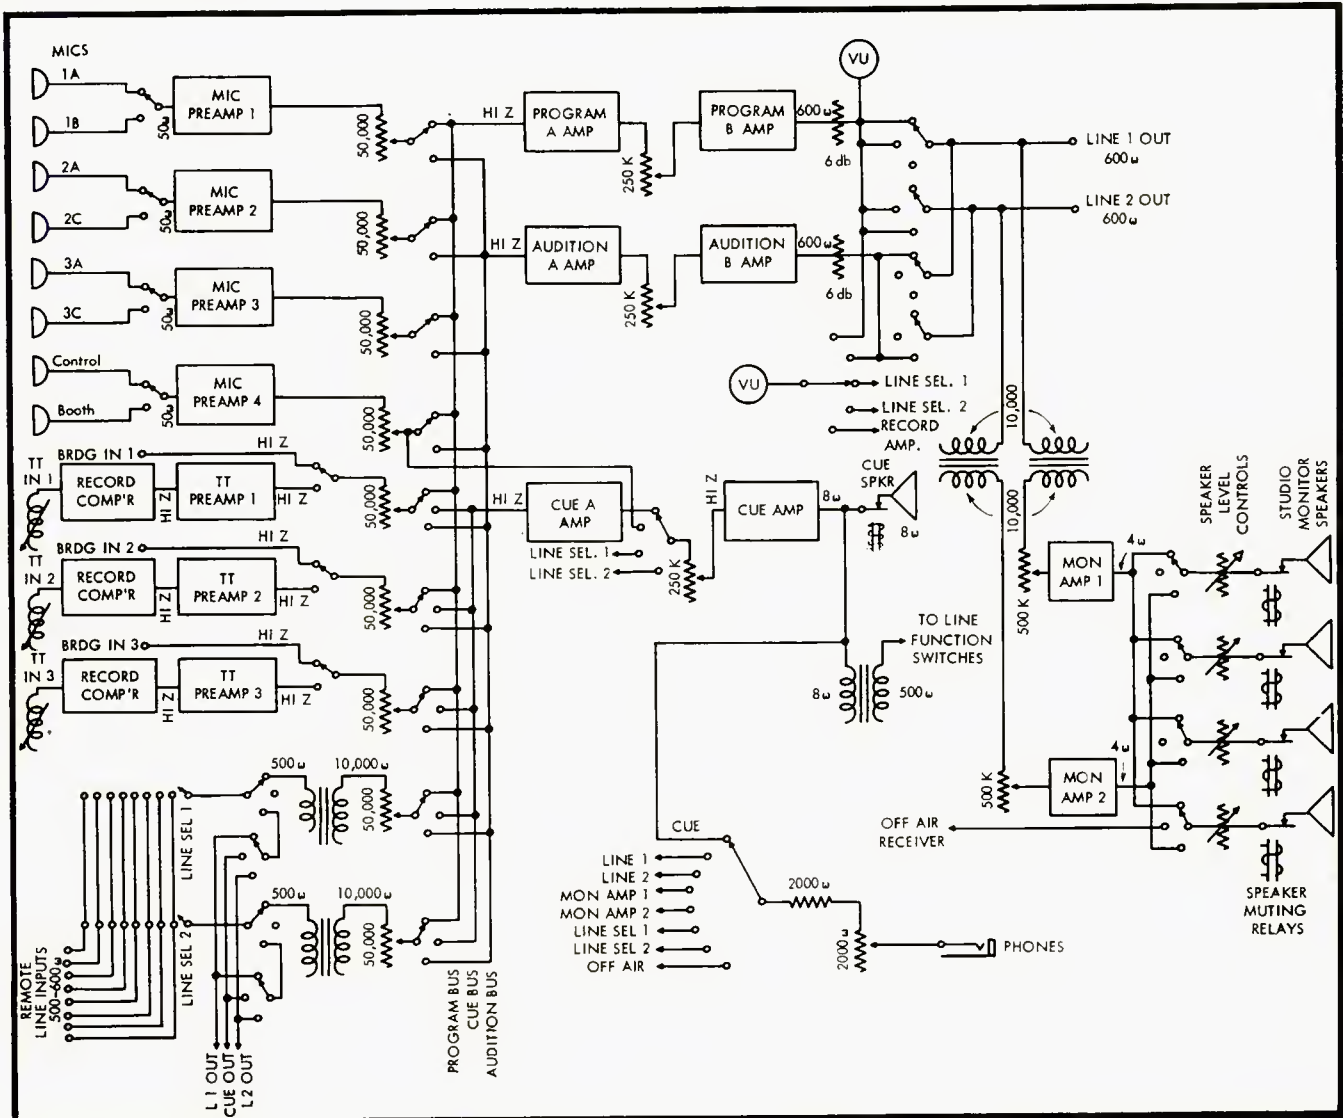

Fig. 7. Complete block schematic of the control equipment shown in Fig. 6.
Fig. 6. Showing the quantities displayed in Fig. 7: (A) fed from a pentode, or high resistance source, the current is sinusoidal; (B) with a lower source resistance, neither the voltage or current is sinusoidal.
Fig. 7. Waveforms in different practical circuits: (A) with a pentode or high resistance source, the current is sinusoidal; (B) with a lower source resistance, these waveforms are typical.
varies at any instant. The waveforms produced are shown at (A) in Fig. 7. Current and voltage can of course be displayed on the scope, but the magnetic flux we can only deduce.